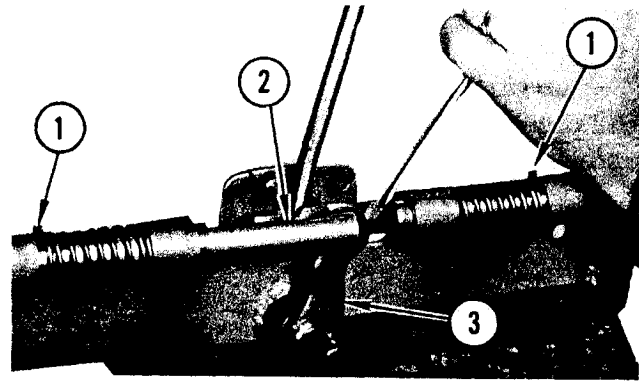

FIGURE 5. CAM INSTALLATION
Compress springs with screwdriver and drive rolled pins (1) into lock pawls. Figure 5.